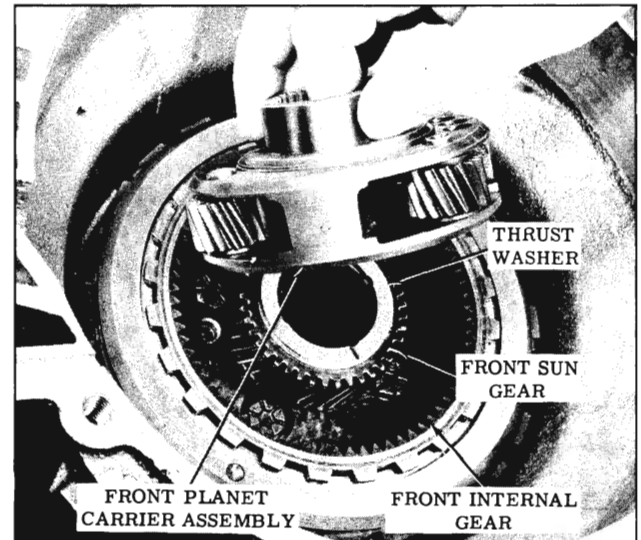

Fig. 3-246 Removing Front Unit Sun Gear
47. Remove the front planet carrier assembly, bronze thrust washer, and front unit sun gear. (Fig. 3-246)